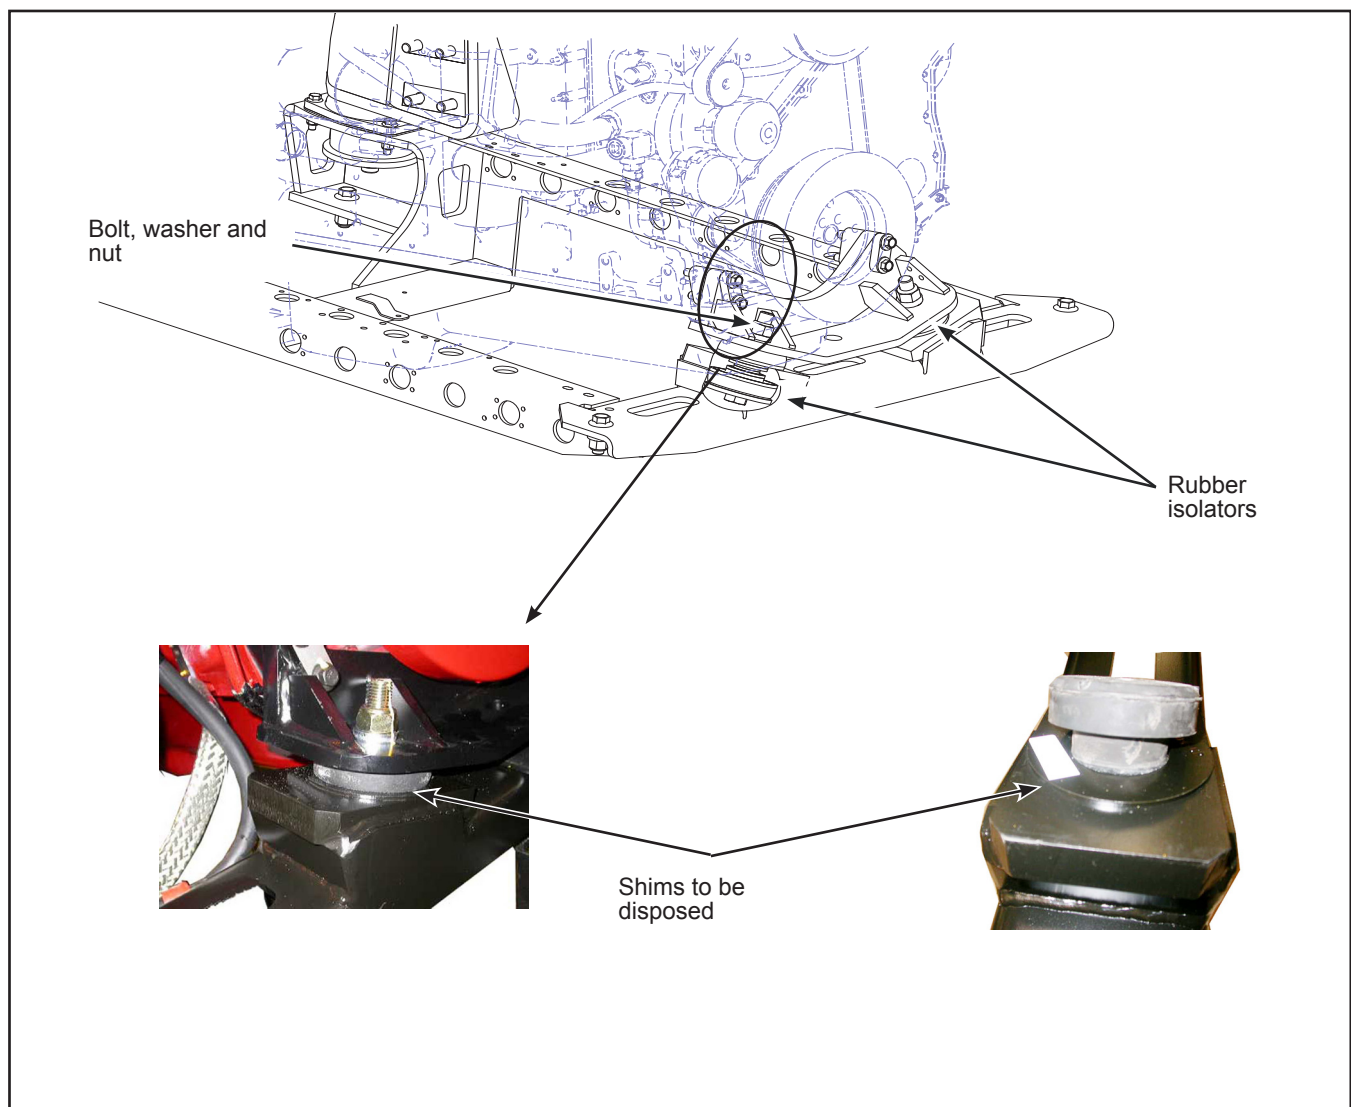

Figure 10 - Location of Rubber isolators
- 1.30. Remove the two bolts that retain the rubber isolators to the cradle. Retain the hardware. See Figure 10.
- 1.34. Install the two new N66492 rubber isolators on the cradle. See Figures 10 and 11.